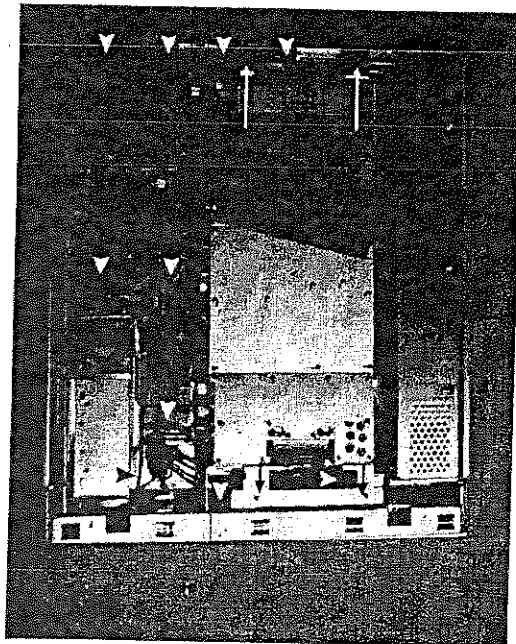
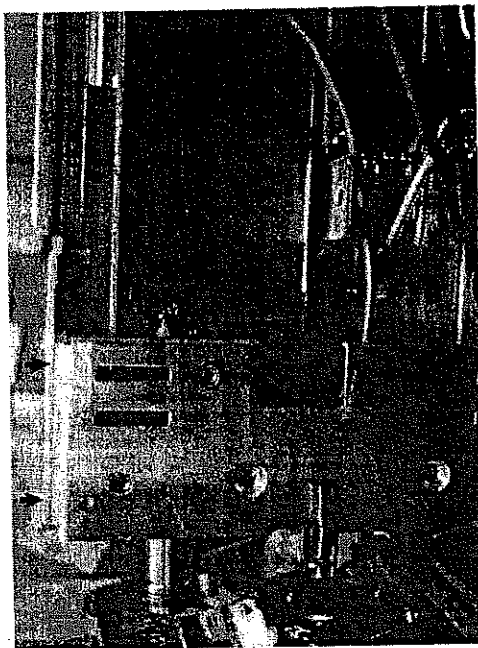

Figure 5-8 Location of Screws
Figure 5-9 Location of Screws
7. After remove cables for RF block, remove 10pcs hexagonal nuts and 8pcs screws, referring Figure 5-8 and Figure 5-9.